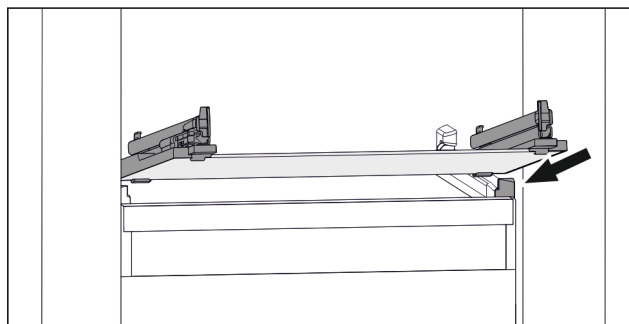

Fig. 159 Example illustration of glass shelf
- Position glass shelf at an angle behind the stoppers. (see Fig. 159)